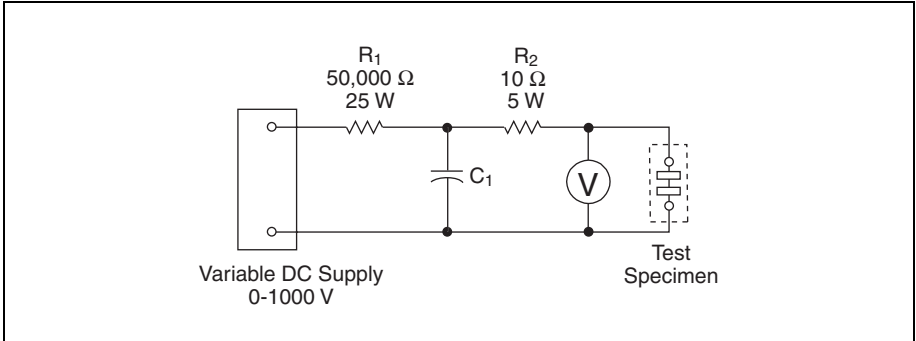

Figure 4.10 UL 497A Breakdown Voltage Measurement Test
2. **Breakdown Voltage Measurement Test** — Secondary protectors must break down within $\pm 25\%$ of the manufacturer's breakdown rating when tested in each polarity with a rate of voltage rise no greater than 2000 V/s . The secondary protector is to be mounted in accordance with the manufacturer's installation instructions and then subjected to the test circuit shown in Figure 4.10. This requirement applies only to secondary protectors connected between Tip and Ring or Tip/Ring and Ground of the telephone loop.